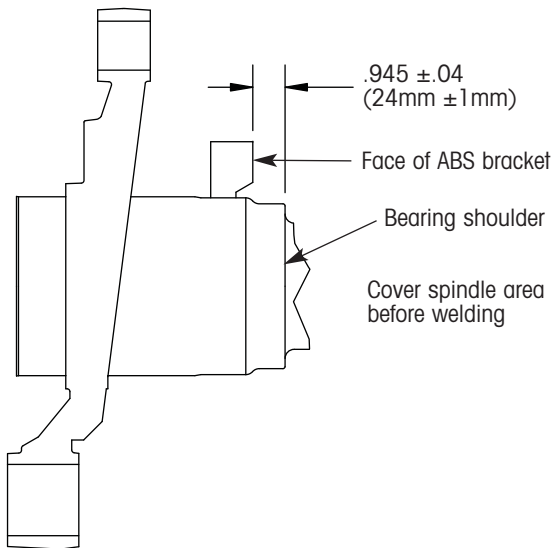

Figure 1. Positioning the ABS block along the length of the axle
3. To position the ABS block along the length of the axle, measure back (inboard) from the bearing shoulder to the face of the ABS block .945 ±.04 inches (24 ±1 mm). Refer to figure 1.
IMPORTANT: Before welding, cover the entire spindle area (as shown in figure 1) to avoid weld splatter damage.